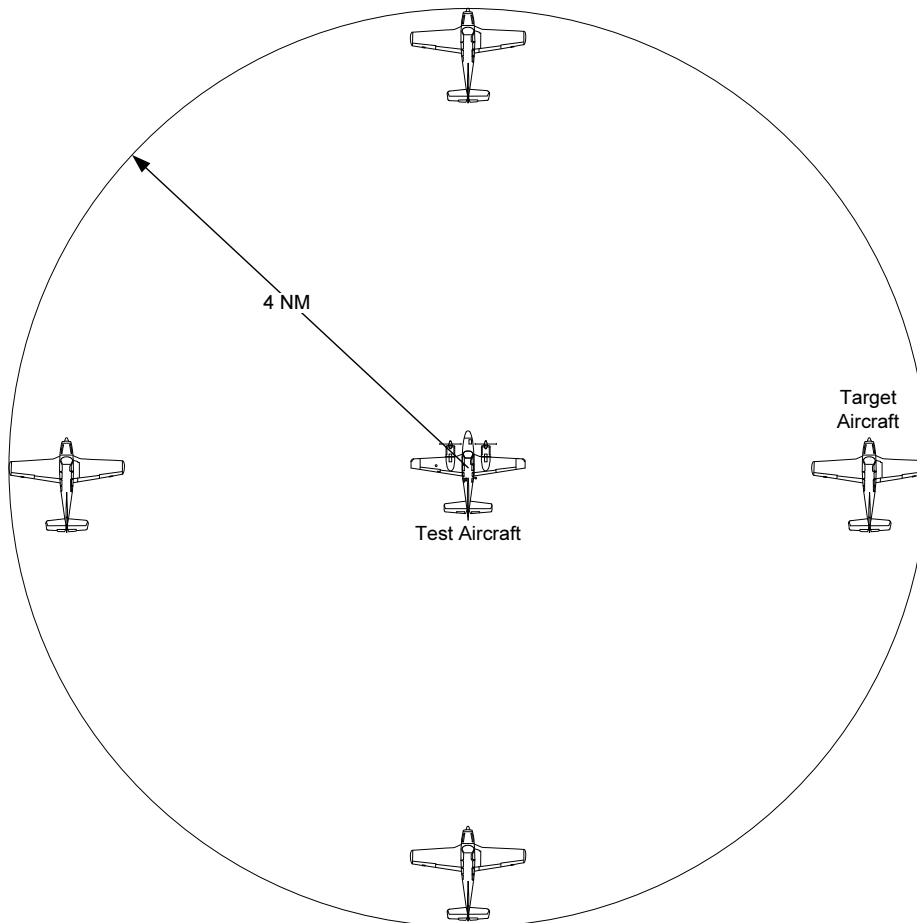

Figure 3-1. Target Aircraft Position for Traffic Display Flight Check
The system setup and checkout functions are reached in the Ground Maintenance mode of the GNS 480. This mode should not be accessed during flight. The Ground Maintenance mode is reached by pressing the line select keys 1, 4, and MENU/ENTER in sequence immediately after the GNS 480 initialization is complete (after the cloud scene and “GNS 480” disappear) and before any other bezel keys on the GNS 480 are pressed. Line select key 1 is the top line select key, line select key 4 is the fourth key down, and MENU/ENTER is the lower most key below the line select keys. After pressing the keys, wait for the GNS 480 to restart into Ground Maintenance mode. The Ground Maintenance mode default menu display (SETUP) is shown in Figure 3-1. Pressing the SETUP, TEST or INPUT smart keys along the bottom allows selection of that function. Pressing the EXIT smart key will return the GNS 480 to the Airborne mode.